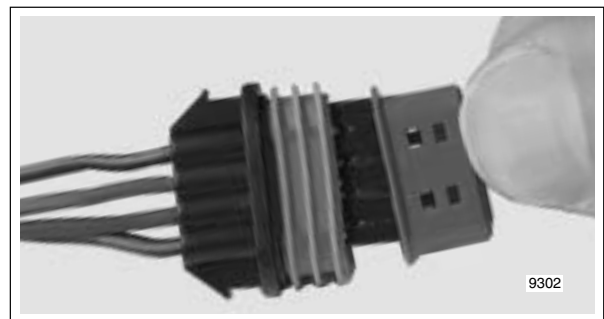

Figure B-17. Remove Terminal Lock
3. Use a fingernail to pry colored terminal lock loose and then remove from mating end of socket housing. See Figure B-17.
3. Install colored terminal lock onto mating end of socket housing. See Figure B-17.